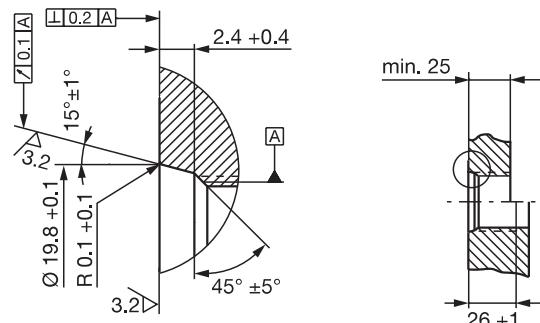
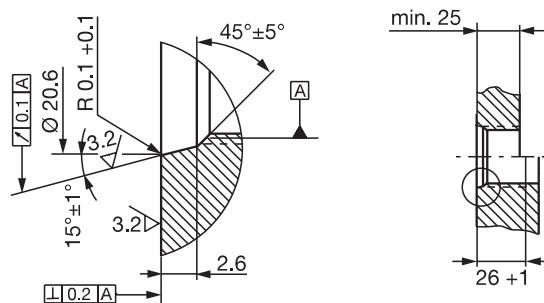

Fig. 5-3: Mounting hole M18×1.5 per ISO 6149 O-ring 15.4×2.1
Fig. 5-4: Mounting hole 3/4"-16UNF per SAE J475 O-ring 15.3×2.4
1. Make a mounting hole with thread (possibly with countersink for the O-ring) acc. to Fig. 5-3 or Fig. 5-4.